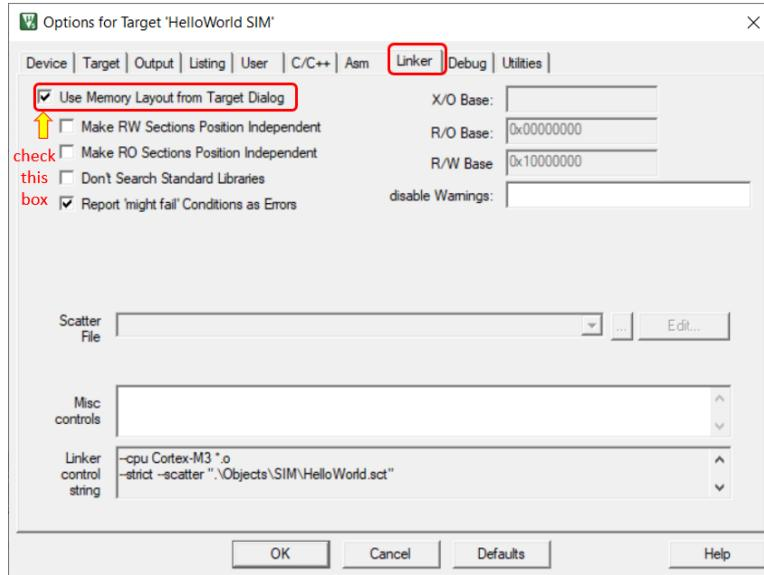

Figure 7.15: Keil IDE: Target Options Linker Tab Configuration
4. Configure the Linker tab as shown in Figure 7.15. This is to instruct the linker to use the memory layout from the Target tab setting instead of the default memory layout.